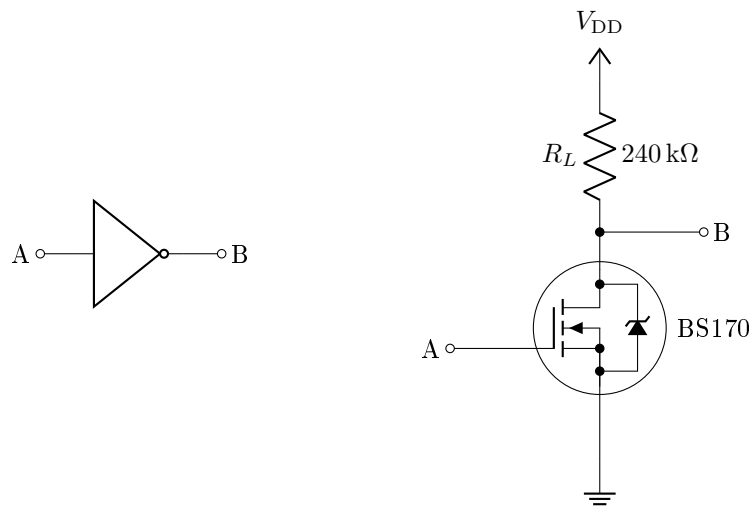

Figure 3: Inverter Gate Symbol and Discrete MOS Implementation
An inverting function cannot be implemented with diodes and resistors alone. A transistor is needed to provide the inverting action. In this lab, you will use the BS170 N-type Metal Oxide Semiconductor Field Effect Transistor (NMOSFET). If the voltage present at the gate of the transistor is above 0.7 V (high), the transistor will conduct, reducing the output voltage to logical '0'. If the input voltage is logical '0' (low), then the transistor does not conduct, and zero voltage drops across the load resistor which results in the output voltage being '1'. A current-limiting resistor at the gate is always needed, otherwise excessive gate current might destroy the transistor. The circuit used in the electrical characterization of the MOS inverter with a resistive load is shown in Figure 3. Digital integrated circuits are circuits based on the principles of Boolean algebra. The binary logic variables in this algebra can assume only one of two possible values which are called the logical '0' and '1' levels. In the electronic circuit implementation of Boolean algebra, these variables correspond to the values designated by the voltages  $V_{OL}$  and  $V_{OH}$ .
We usually denote negation with a bar above a character. Hence, in Figure 3 we have
1. Wire the diode Inverter gate using a BS170 MOSFET on a breadboard as shown in Figure 3 and verify its truth table by applying 0 V and 5 V to the input A. Construct  $R_L$  using a combination of resistors in parallel and in series. You should be able to come within  $10\ \Omega$  of  $R_L$  with 4 resistors. Measure the value of the output voltage. Note the voltage drops across the inverter circuit and their effect on the output voltage.